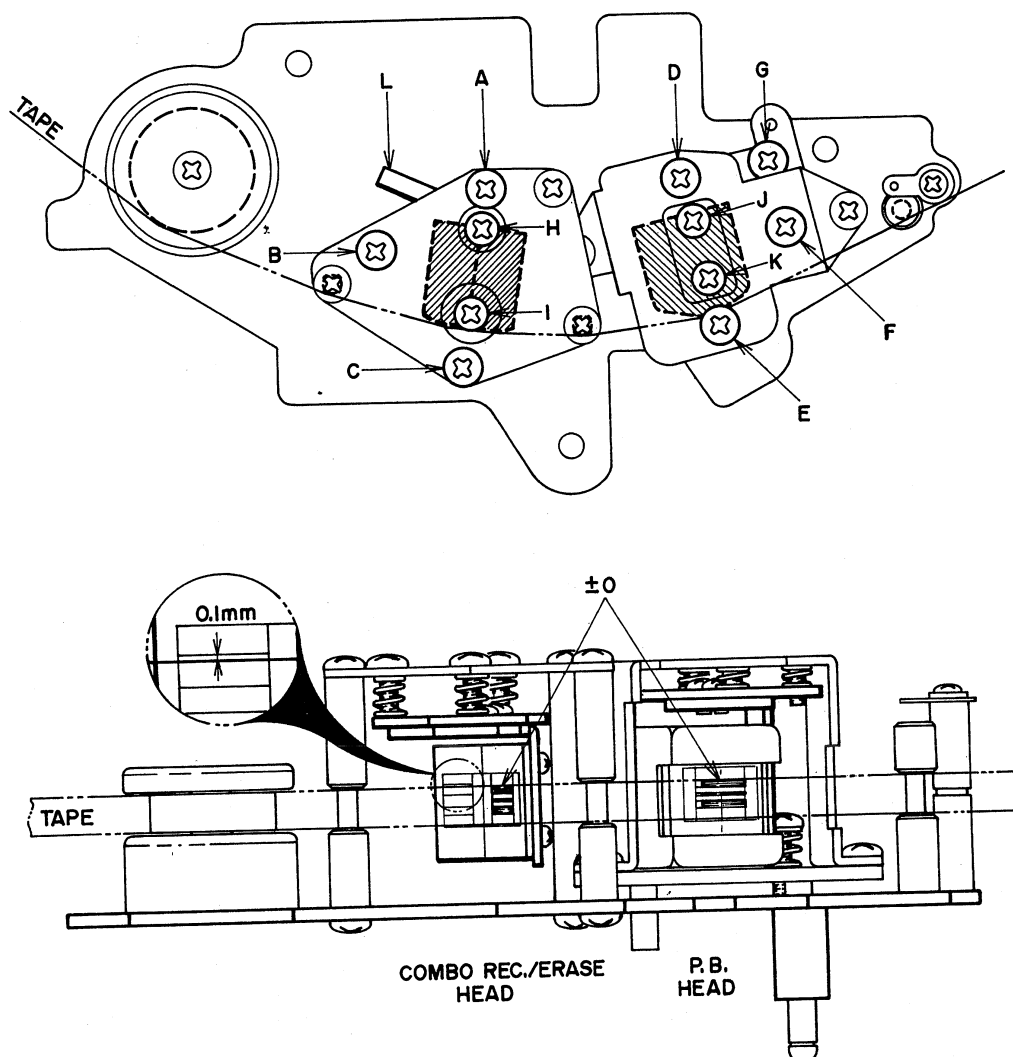

Fig. 18
At Playback mode adjust COMBO head height by turning screws (A) (B) and (C) shown in Fig. 18 to left and right until the upper edge of the tape is the same height as the upper edge of the left channel recording head core.
a) At Forward Playback mode, adjust playback head height by turning screws (D) (E) and (F) shown in Fig. 18 to left and right until the upper edge of the tape is the same height as the upper edge of the left channel playback head core.
b) At Reverse Playback mode, adjust playback head height by turning screw (G) shown in Fig. 18 to left and right until the lower edge of the tape is the same height as the lower edge of the right channel playback head core.
- At Forward Playback mode, turn Azimuth Alignment Screw (F) shown in Fig. 18 to obtain maximum line output level on both channels.
- After the adjustment in Item d) above has been completed, loosen screws (J) and (K) shown in Fig. 18 and move the head gap side of the playback head to left and right. When tension is applied to the supply reel side and
- d) At recording mode, turn Azimuth Alignment Adjustment Screw (B) shown in Fig. 18 to left and right until the line output level of both channels is maximum and does not fluctuate.
- e) After completing adjustment in Item d) above, adjust gap side of recording head by moving installation angle (L) shown in Fig. 18 to left and right until the line output level of both channels do not fluctuate (maximum allowable fluctuation within $+0.5/-0$ dB) when tension is applied to the supply reel side.